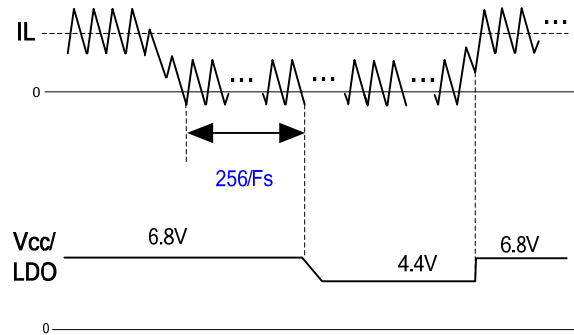

Figure 16: Time Diagram for Smart LDO
The smart LDO can select its output voltage according to the load condition by sensing switch node (SW) voltage. At light load condition when part of the inductor current flows in the reverse direction ($DCM=1$), $V_{sw} > 0$ on LDrv falling edge in a switching cycle. If this case happens for consecutive 256 switching cycles, the smart LDO reduces its output to 4.4V. If in any one of the 256 cycles, $V_{sw} < 0$ on LDrv falling edge, the counter is reset and LDO voltage doesn't change. On the other hand, if $V_{sw} < 0$ on LDrv falling edge ($DCM=0$), LDO output is increased to 6.8V. A hysteresis band is added to V_{sw} comparison to avoid chattering. Figure 16 shows the timing diagram. Whenever device turns on, LDO always starts with 6.8V, then goes to 4.4V/6.8V depending upon the load condition. However, if the only V_{in} is applied with Enable low, the LDO output is 4.4V.